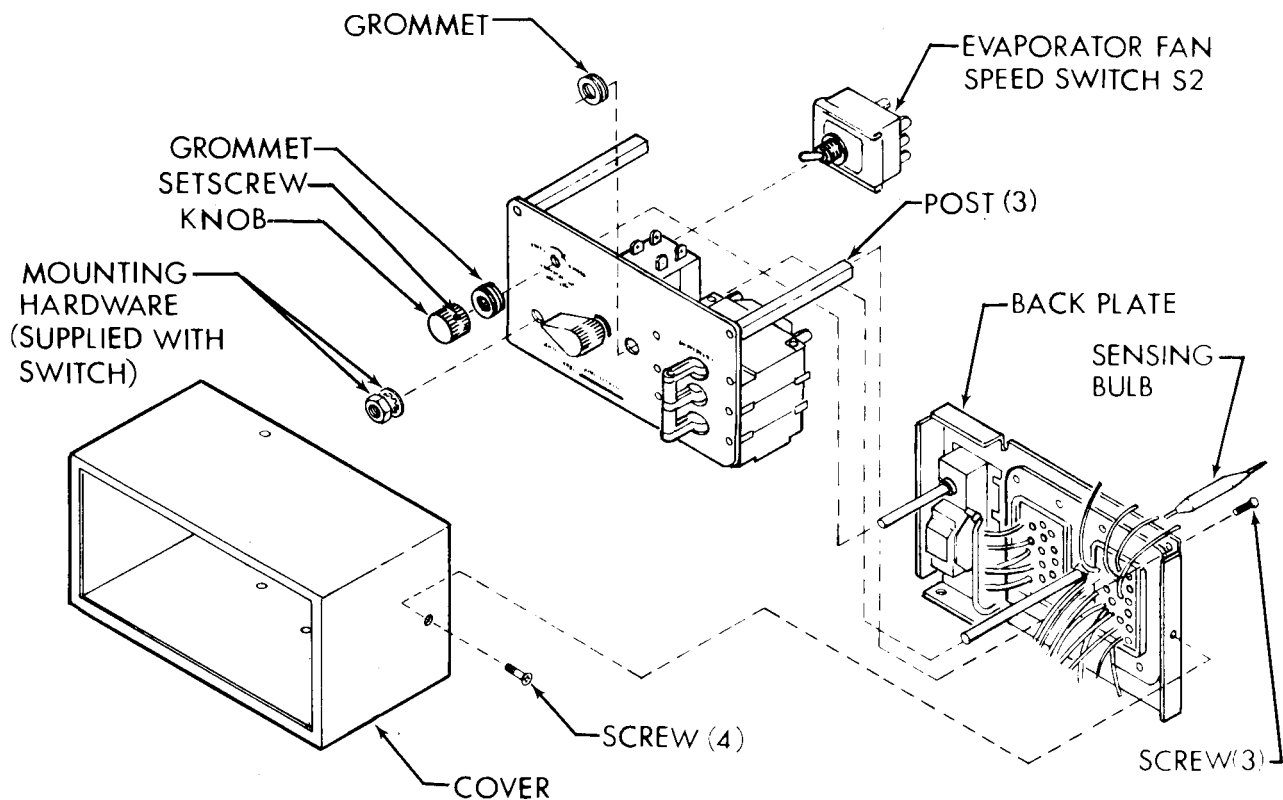

Figure 4-19. EVAPORATOR FAN SPEED Switch S2
The EVAPORATOR FAN SPEED switch S2 is located in the control module. (See fig. 4-19.)
- (1) Disconnect power at power source.
- (2) See paragraph 4-21a and remove control module.
- (3) See figure 4-19 and remove four screws and pull cover off.
- (4) Loosen the setscrew in TEMPERATURE SELECTOR knob. Remove knob.
- (5) Remove the three screws from the posts and slip the back plate off.
- (6) Tag and disconnect wires from EVAPORATOR FAN SPEED switch.
- (7) Remove nut and washer and pull switch from the panel.